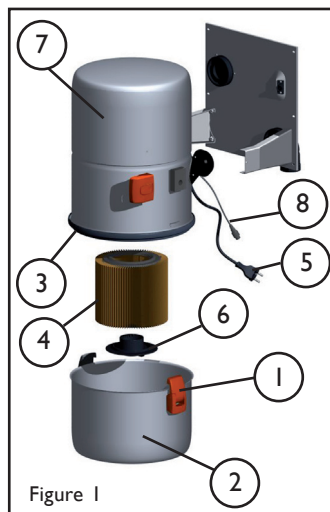
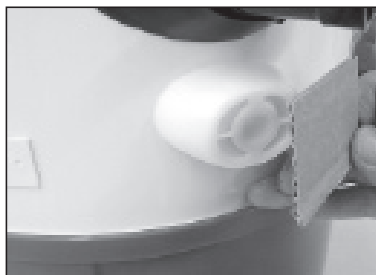

Figure 1
Figure 2
2.2 SERVICING THE FILTER (FIGURE 1)
There are no parts for the user to maintain inside the central unit's motor housing (figure 1: 7). We recommend that the need for maintenance and replacement for the electric motor's turbine and other parts inside the motor housing are estimated by an authorised Allaway service dealer after approx. 600 hours of use. This corresponds to approx. 8 years when the device is used an average of an hour and a half per week.
- Check that the low voltage connector (figure 1) is connected correctly to its counterpart on the wall bracket of the central unit.
- Check whether the central unit can be started via the low voltage connector (figure 1: 8) of the central unit by closing the start circuit with a piece of metal wire.
- Once you have located the blockage, disconnect the central unit and check that there are no blockages in the coupling hoses. Then use the suction hose bushing to connect the suction-side coupling to a wall inlet along the blocked stretch (or to the wall inlet closest to the blockage, if the blockage is in the frame pipe). Start the central unit via the low voltage connector (figure 1: 8) with the help of a piece of metal wire, and then go to where the central unit is usually mounted. Block and unblock the suction pipe opening with your hand to send vacuum shocks to the blocked pipe. If the blockage has not become dislodged within 10-15 seconds, disconnect the central unit from the wall inlet to allow the turbine to get some air in between and to stop it from overheating. Repeat the process after approximately one minute.
Start the central unit with all wall inlets closed via the low voltage connector (figure 1: 8) using a piece of metal wire. If air is still escaping from the exhaust pipe after approximately 10 seconds, there is a leak in the pipe system. The leak must be located and repaired. Do not run the unit for more than 20 seconds with all of the wall inlets closed. If the installation is completely airtight, the turbine will not receive any air, therefore overheating and possibly incurring damage. The bypass valve must be blocked for the duration of the inspection using a piece of cardboard, for example (figure 2).